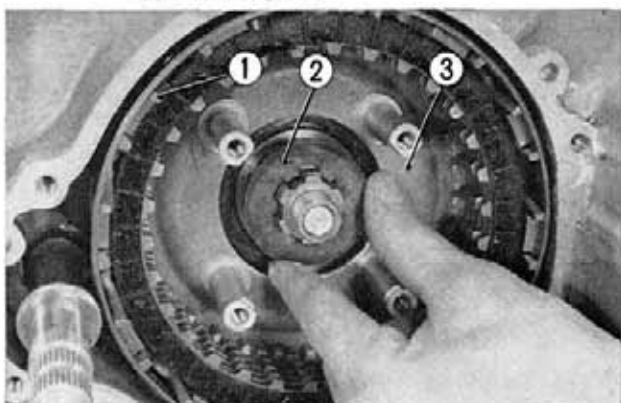

Fig. 4-9 ① Clutch outer
1. Assemble the clutch outer and the 25 mm spline washer on the main shaft. Hook the washer on the spline and assemble the clutch pressure plate. (Fig. 4-9)